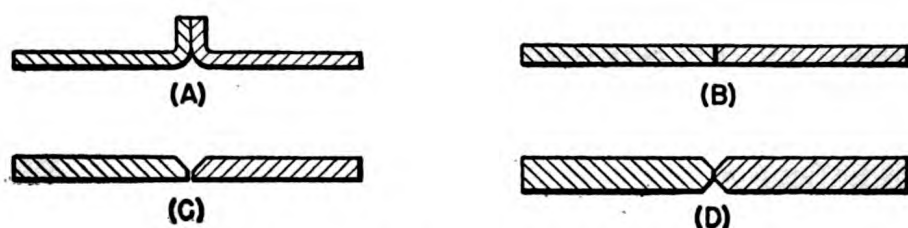

Figure 26.—Types of butt joints.
Figure 26 shows four ways of preparing a BUTT JOINT—that is, a joint in which the parts are joined end to end without overlapping. You may use the FLANGE BUTT JOINT (A) for very thin sheet metal up to 0.0625 inch in thickness.